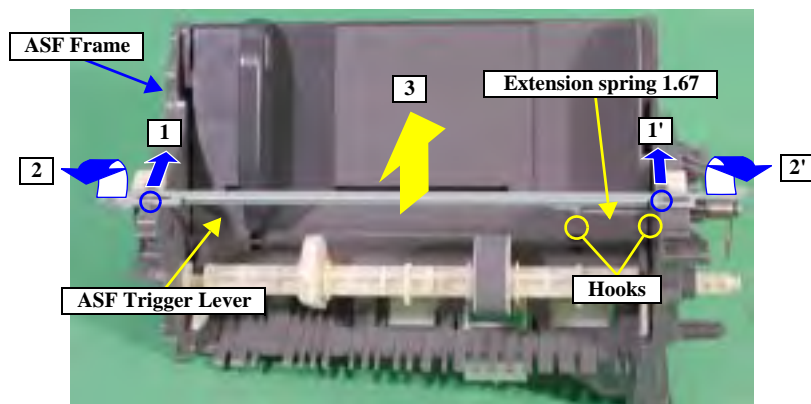

Figure 4-51. ASF Unit Disassembly 2
5. Follow the order shown in Figure 4-51 to remove ASF Trigger Lever from ASF Frame.